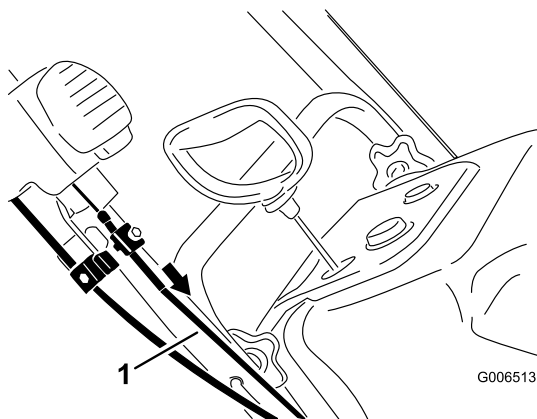

Figure 36
5. Pull the upper cable casing forward until you remove the slack in the cable, and tighten the screw on the upper cable clamp securely (Figure 36).